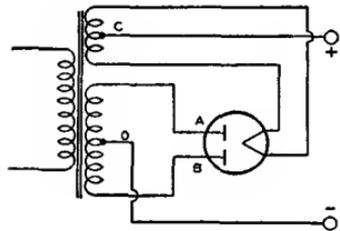

Fig. 79
**Maximum peak inverse plate voltage** is the highest instantaneous plate voltage which the tube can withstand recurrently in the direction opposite to that in which it is designed to pass current. For mercury-vapor tubes and gas-filled tubes, it is the safe top value to prevent arc-back in the tube operating within the specified temperature range. Referring to Fig. 79, when plate A of a full-wave rectifier